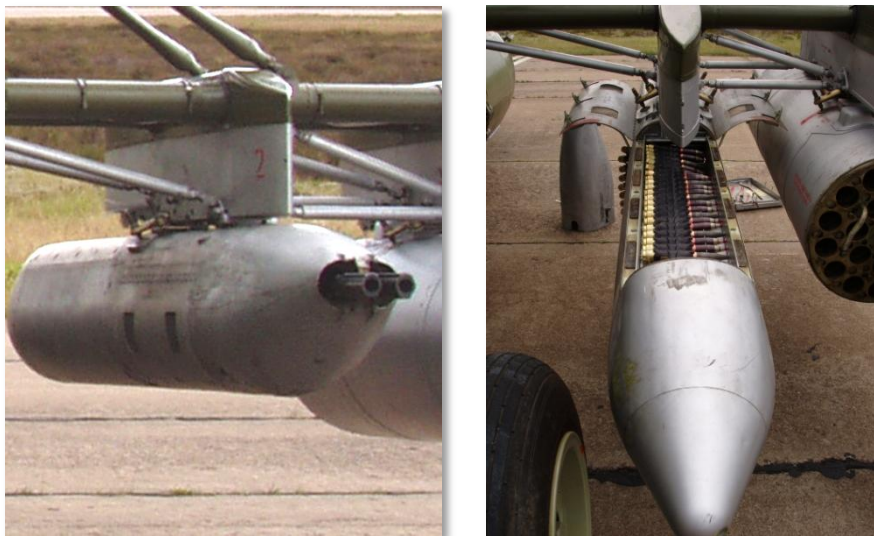

Рис. 9.136. UPK-23-250
- two UPK-23-250 cannon pods equipped with the GSh-23L cannon (Рис. 9.136)